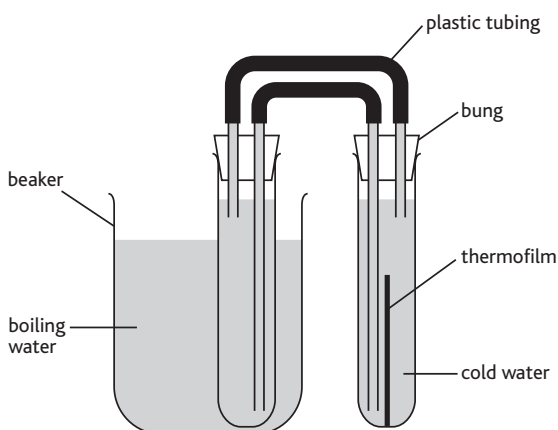
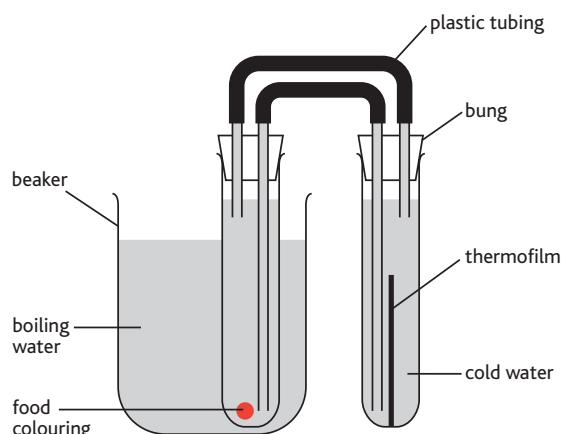

Figure 25: Using thermofilm
Figure 26: Using food colouring
1. Set up the apparatus as shown in Figure 25 and connect the tubing as shown.
2. Place the thermofilm in one of the tubes, as shown in Figure 25 or add a few drops of food colouring as shown in Figure 26.